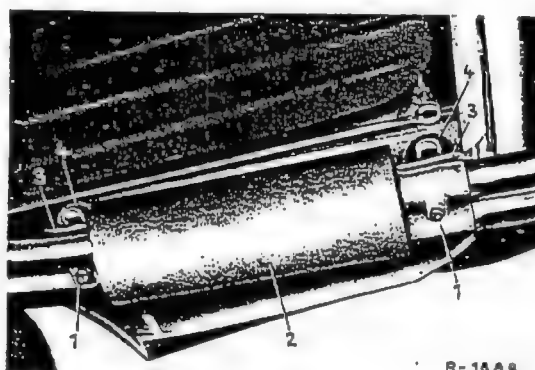

Fig. 49-1/5
10. On cars with air suspension fold the torsion bar (2) on the rear axle upward and attach the clamp (5) to the bracket (6) (Fig. 49-1/3). Attach the connecting rod for the level-adjustment valve to the lever of the torsion bar.